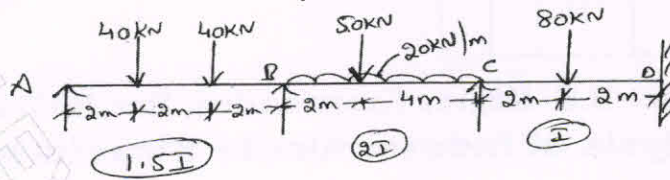

Fig.Q5
- 5 Analyze the continuous beam by Kani's method. Shown in Fig.Q5. Draw BMD.